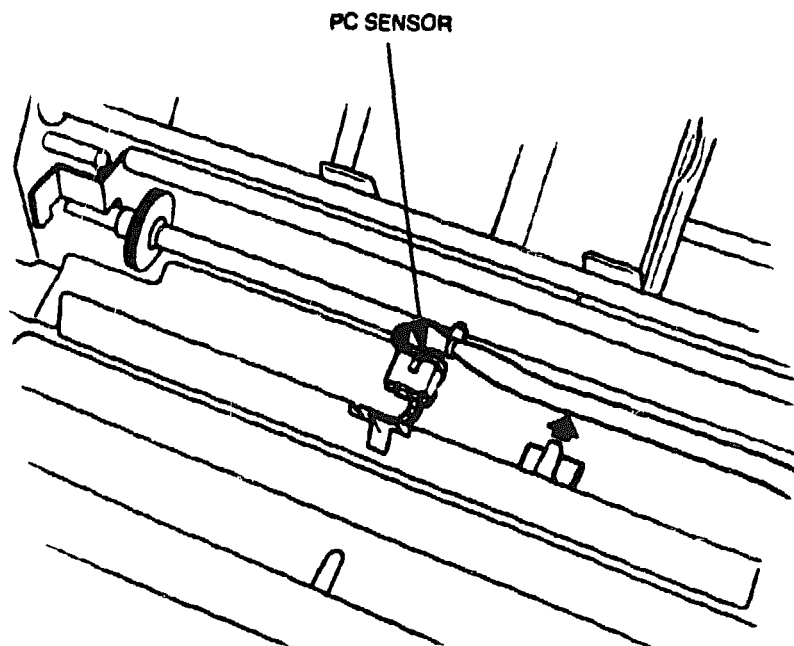

Figure 6-31 PC Sensor Removal
4. Press the locking tabs inward to release the upper paper sensor (PC sensor) shown in Figure 6-31.
5. Remove the PC sensor while being careful not to damage the sensor lever (see Figure 6-31). Then remove the cable from the wire sticker on the plate shown in Figure 6-31.